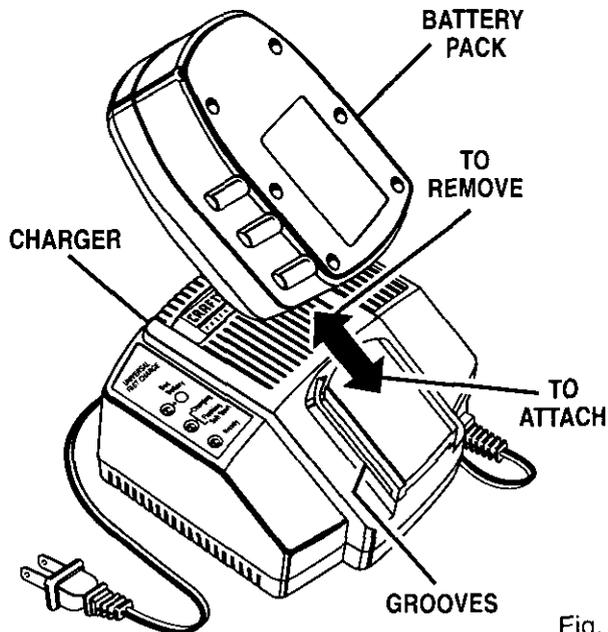

Fig. 8
- Attach battery pack to charger by aligning raised ribs on battery pack with grooves in charger, then slide battery back onto charger. See Figure 8.